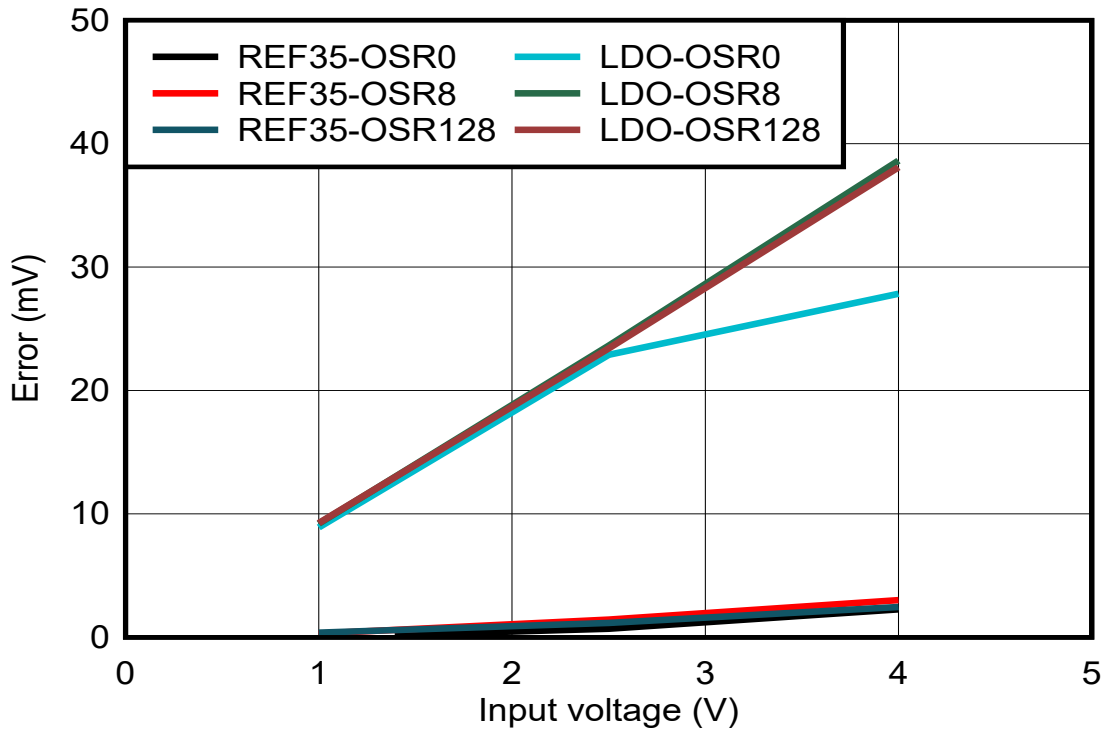

Figure 10-3. Error vs Input Voltage
**Table 10-3** and **Figure 10-3** show the captured measurement results for various DC inputs. The ADC output is captured and analyzed for output accuracy error and code spread with REF35500 as power supply versus LDO as power supply.